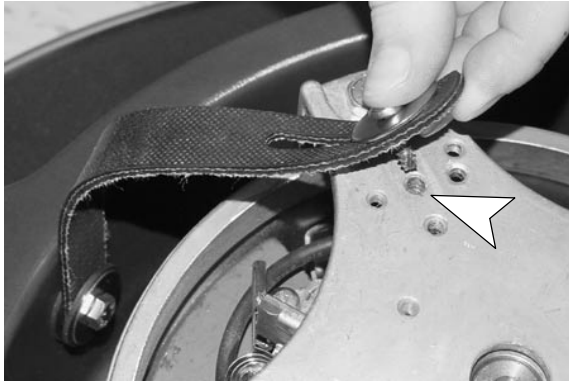

Fig. 5
6. Using existing screw and supplied large flat washer, fasten strap to the motor cover mounting hole as indicated. Do not tighten screw at this time (Figure 5).